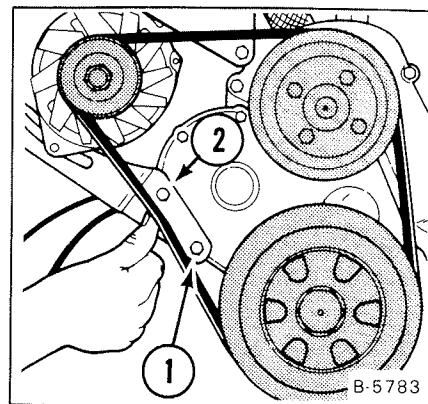

Fig. 6-5 Checking Belt Tension
- (2) Loosen alternator adjusting bolt (Fig. 6-5, Item 1).
- (3) Loosen the alternator mounting bolt (Fig. 6-5, Item 2).
- (4) Remove or replace the drive belt as needed.
- (5) Move the alternator to give the belt $.31''$ (7,87 mm) deflection with 14.3 pounds (6,49 kg) of force, between the sheaves.
- (6) Tighten the adjusting bolt and mounting bolt when the belt is at the correct tension.
- (7) Install the shield.